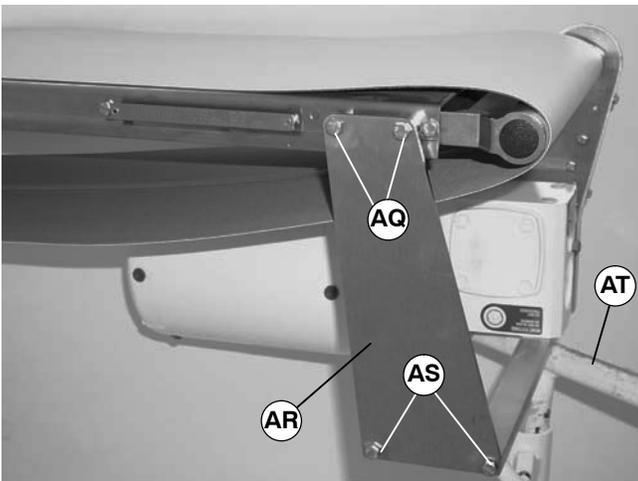

Figure 21
**NOTE:** For conveyor with a Heavy Load Bottom or Top Gearmotor Mounting Package, bracket (AR of Figure 21) must be removed.
- Remove two M6x30 mm hex head cap screws and spacers (AQ).
- Remove two M6x16 mm hex head cap screws (AS).
- Remove bracket (AR).
<p>The weight of the gearmotor is all on one end of the conveyor which could cause it to tip off the stands when the mounting clamp plates are loosened. Be sure to provide support (AT of Figures 21 and 22) underneath the gearmotor while changing the belt.</p>
6. Place a temporary support (AT of Figures 21 and 22) under gearmotor mounting package.
6. For a conveyor with a Heavy Load Bottom or Top Mounting package, install bracket (AR of Figure 21).